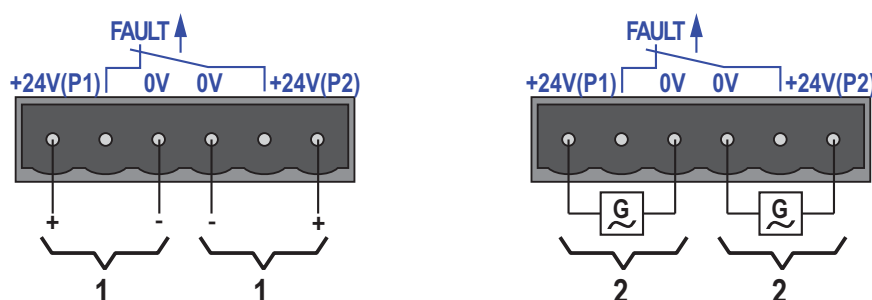

Figure 9: Connecting the supply voltage at the 6-pin terminal block
You can choose between DC or AC voltage when connecting the supply voltage. You use the +24V and 0V pins to connect the AC voltage (see figure 9).
- ▶ The signal contact (“FAULT”, for pin assignment of terminal block, see figure 9) monitors the functioning of the device, thus enabling remote diagnostics. You can specify the type of function monitoring in the Management.